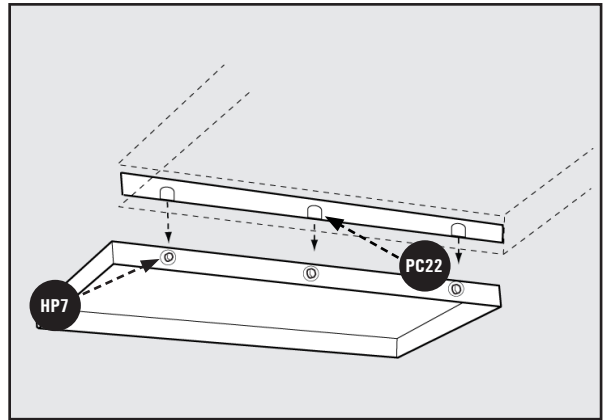

Figure 12
- Loosely assemble three 5/16 18 x 7/8 inch Hex Head Screws with Split Lock Washers **HP7**, 8 x 16 x 1t Flat Washers **HP16** and three 5/16-18 Hex Flange Nuts **HP14** into the three holes into the side of the extension wing as shown. See Figure 12.